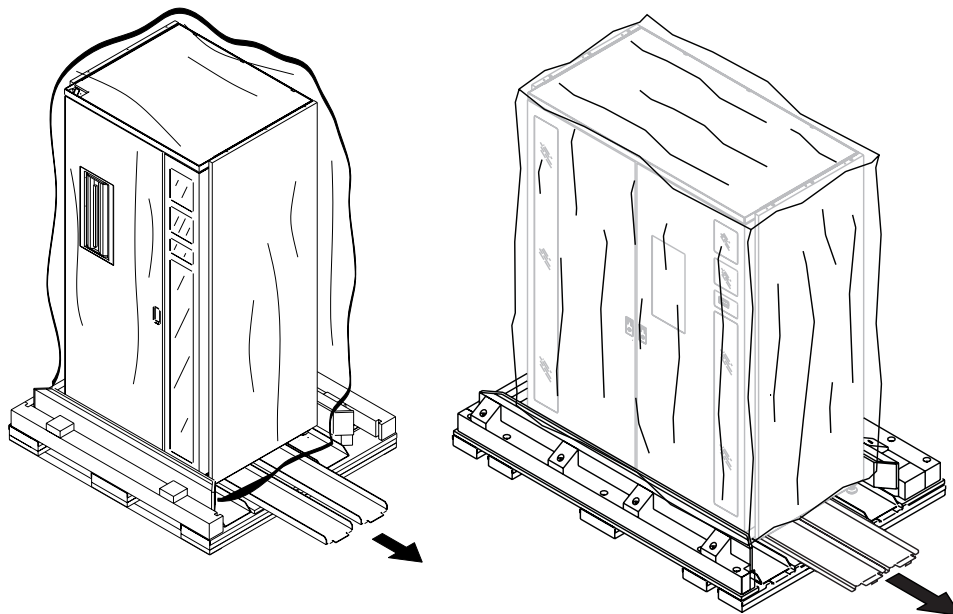

Figure 4-8. Removing the ramp extensions
15. Slide the two ramp extensions and the foam block out from under the right side of the library (see Figure 4-8). Set the ramp extensions aside until you are ready to move the library.